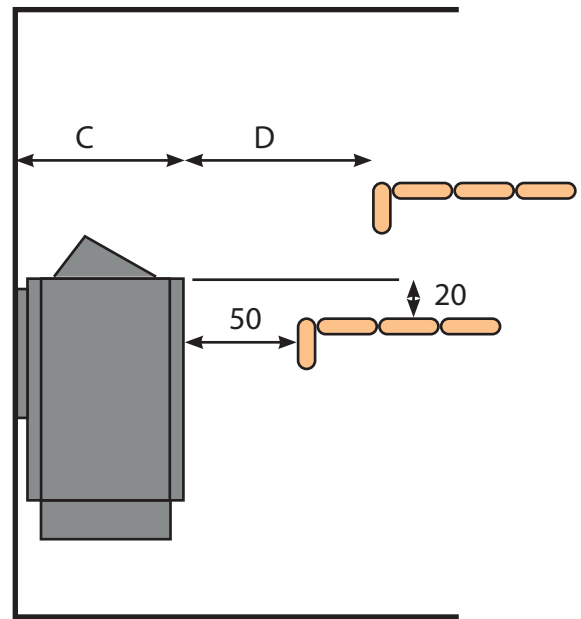

Fig. 5.4d
- ix. The sauna heater becomes very hot when operating and must be guarded to protect in case of accidental contact, please see the sizes in fig 5.4d and also refer to charts below.